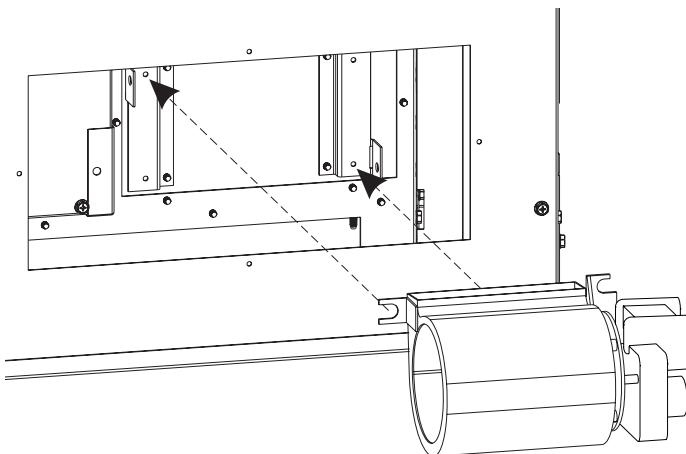

Figure 10
5. Place Blower onto Blower Brackets. **See Figure 10.**